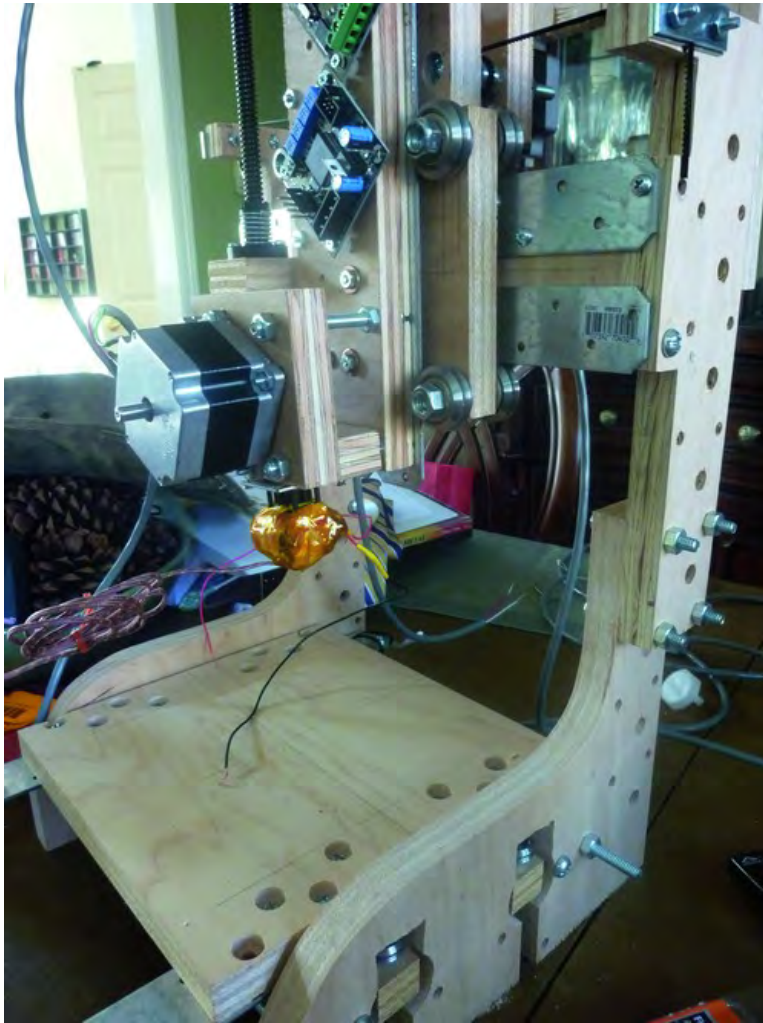

Figure 21-16. Extruder Mechanism bolted onto Z-axis Rail Support
Now carefully put the Extruder Mechanism onto the three machine screws, as shown in Figure 21-16, and secure them with a single nut each.
■ **Note** You will push the Extruder Mechanism until Part S is touching the Z-axis Rail Support, as shown in Figure 21-16.